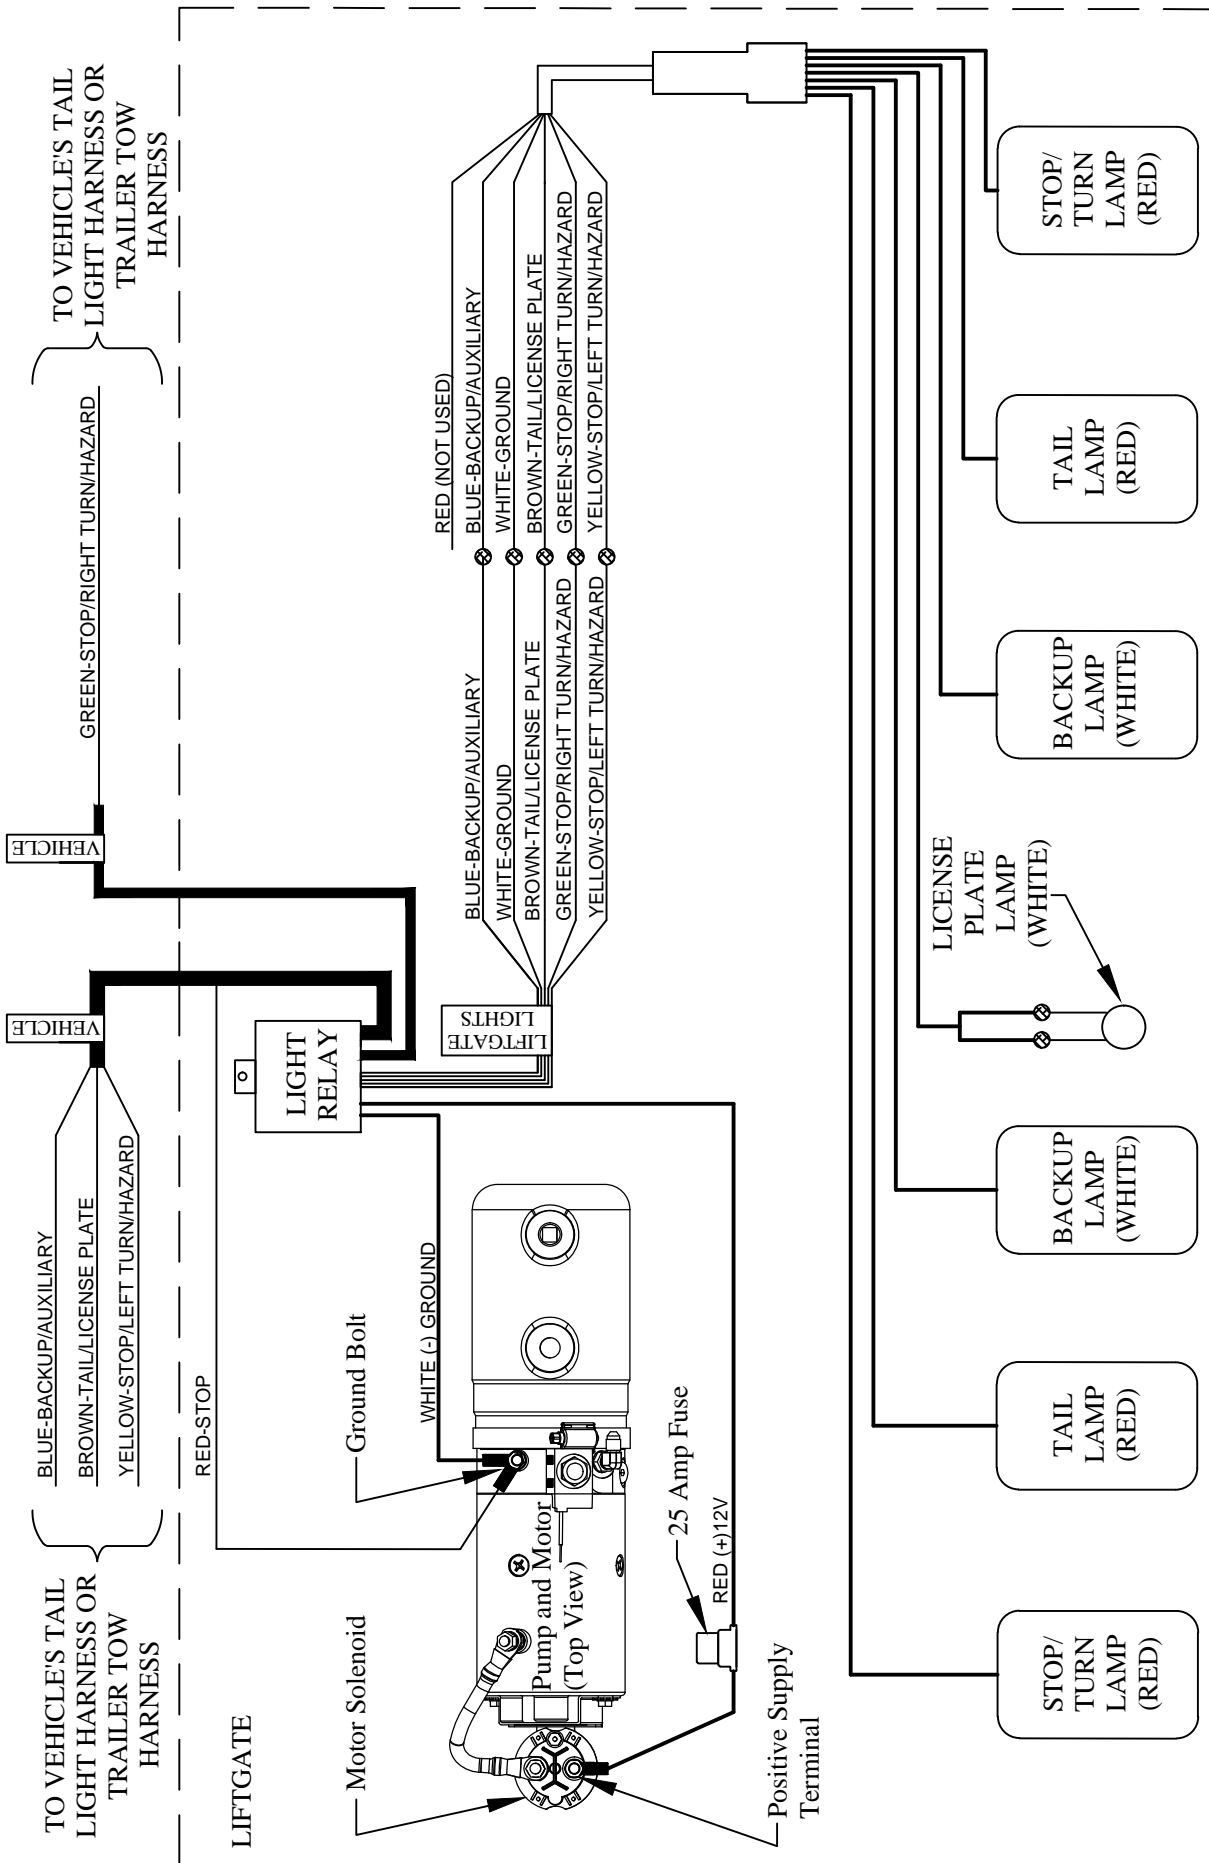
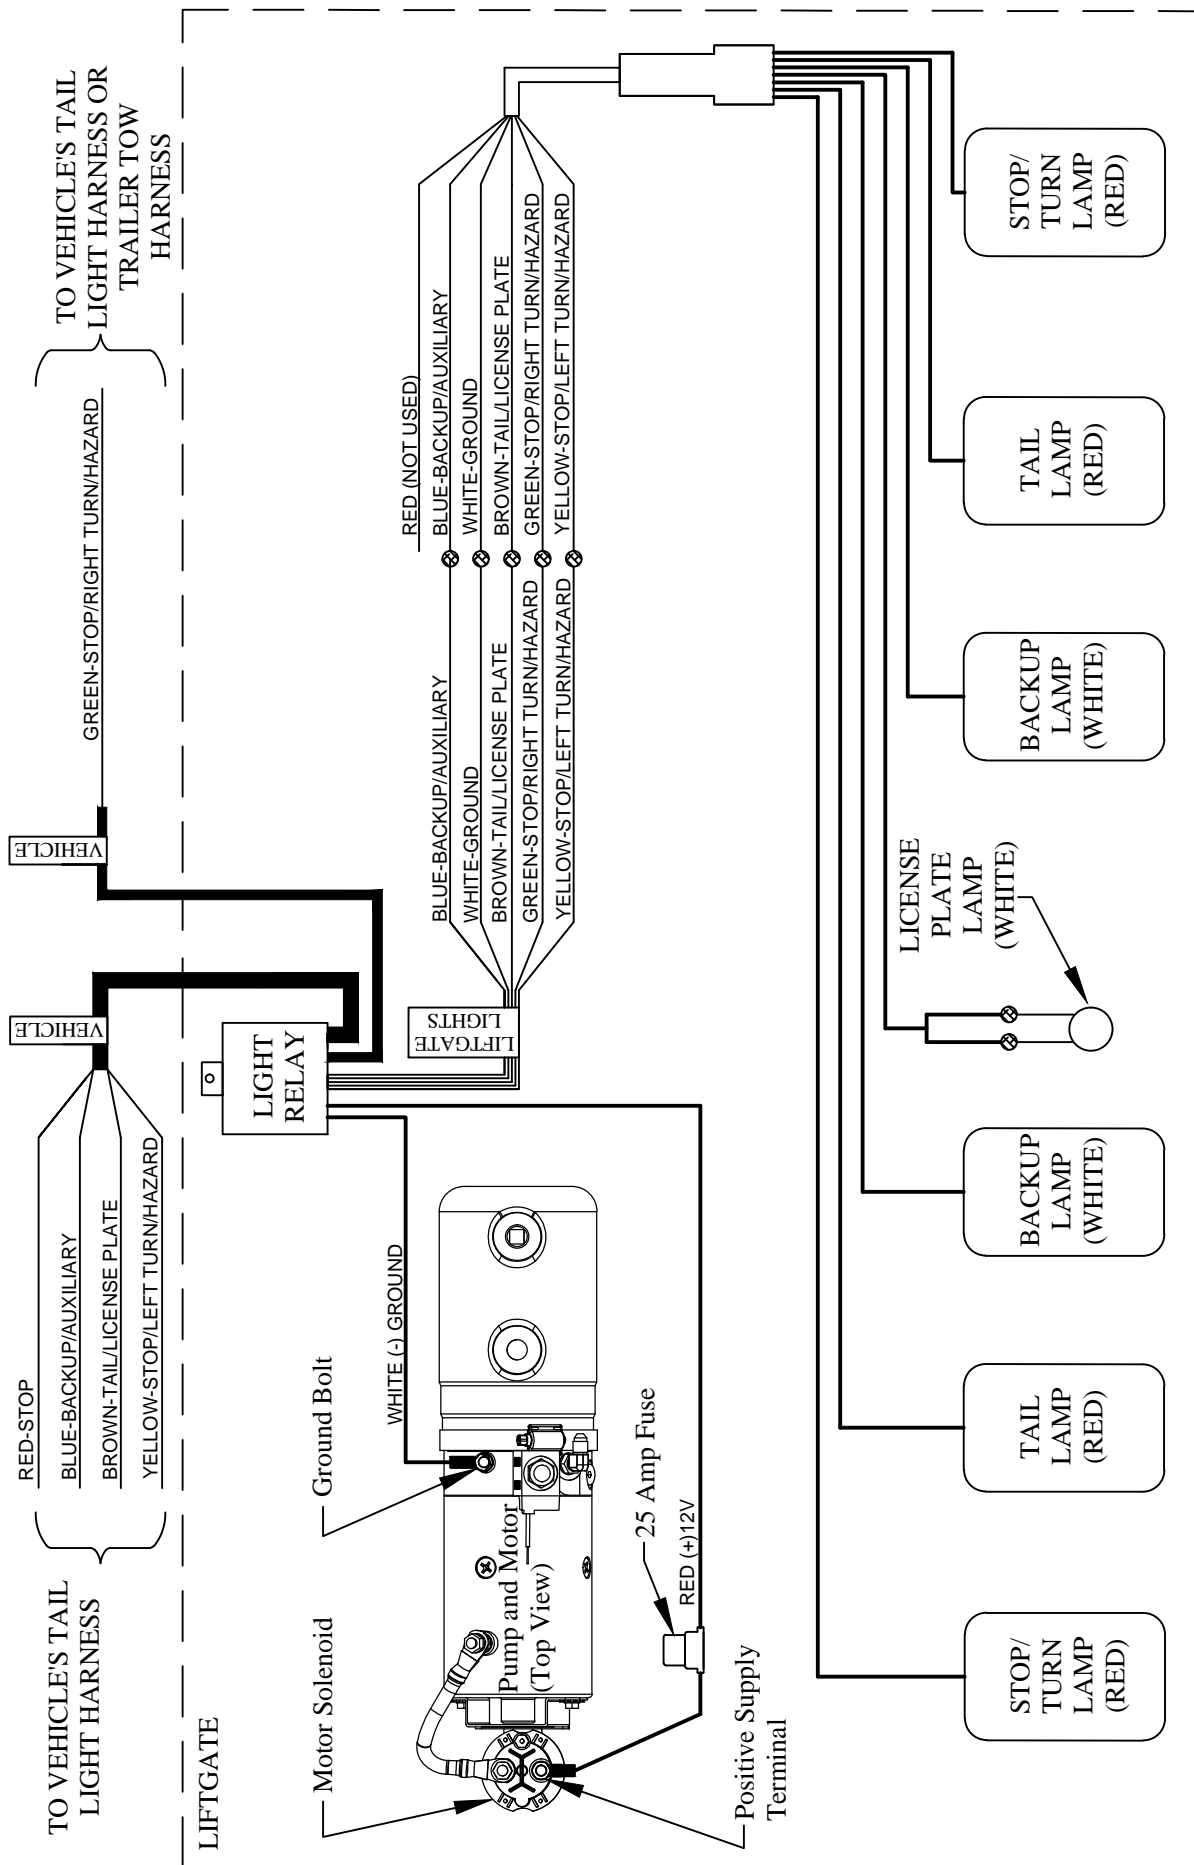

Figure 5: Wiring Diagram, Installing 015862 12V Light Relay on Vehicles with Combined Stop/Turn (2-Wire) Lighting Systems
Figure 6: Wiring Diagram, Installing 015862 12V Light Relay on Vehicles with Separated Stop/Turn (3-Wire) Lighting Systems
**13. Connect** the relay's red stop wire to the ground bolt on the rear of the hydraulic pump if the relay will be wired to a combined stop/turn (3-wire) system (Figure 5).
**14. Connect** the relay's ground (-) wire to the ground bolt on the rear of the hydraulic pump (Figure 5 or Figure 6).
**16. Connect** the relay's input wires, labeled "VEHICLE", by splicing to the corresponding wires in the vehicle's tail light harness or trailer tow harness using the provided butt connectors or IDC connectors (Figure 5 or Figure 6).
**18. Connect** the relay's five output wires, labeled "LIFTGATE LIGHTS", to the corresponding wires in the liftgate's light harness using the provided butt connectors (Figure 5 or Figure 6).
**19. Connect** the relay's positive (+) wire to the positive (+) supply terminal on the motor solenoid (Figure 5 or Figure 6).
**20. Verify** that the relay wiring matches the corresponding wiring diagram (Figure 5 or Figure 6).